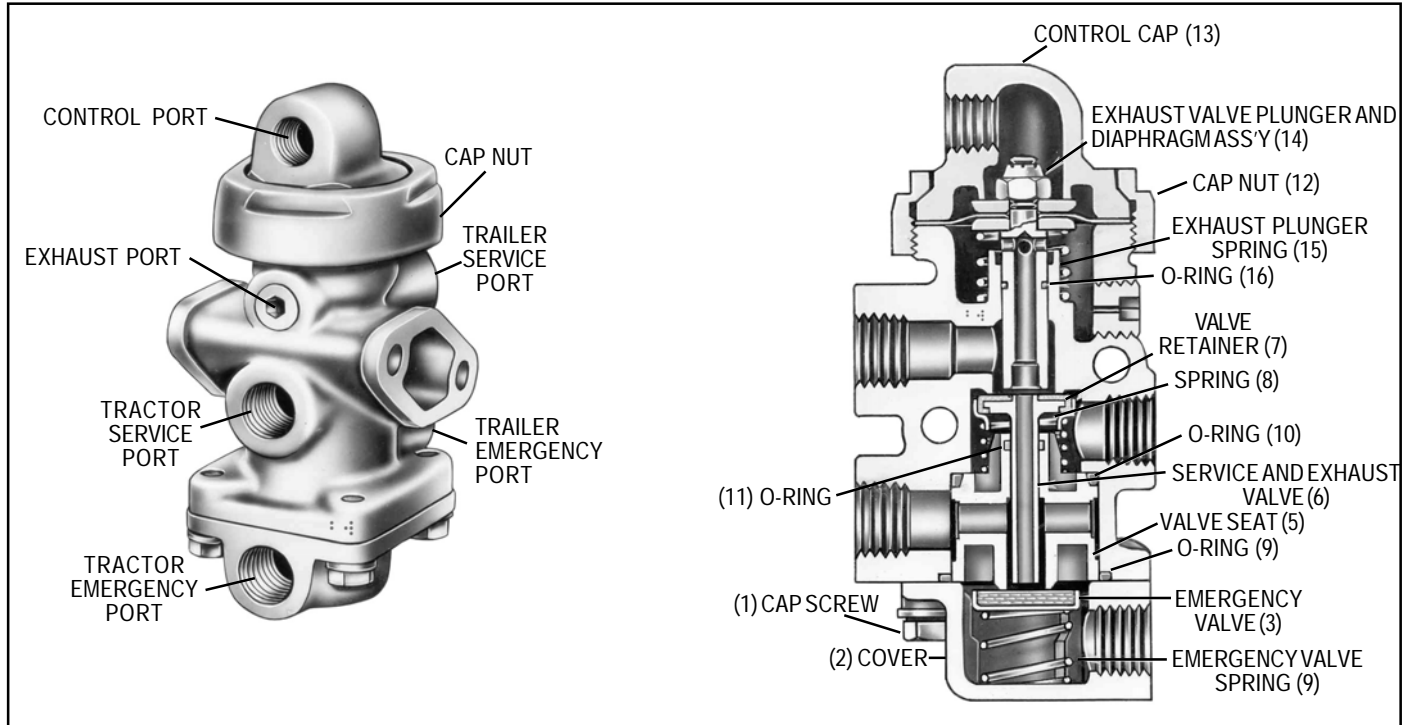

FIGURE 1 - TRACTOR PROTECTION SYSTEM
**Important:** Mark position of control port and tractor emergency port location in relation to body in such a manner that mark will not be obliterated during cleaning of parts. Three (3) springs in valve should be carefully marked as to their proper location in valve as valve is disassembled.
1. Remove four (4) cap screws (1) Figure 1, lock washers, and cover (2) from valve.
2. Remove emergency valve (3) and emergency valve spring (4) from cover.
3. Remove valve seat (5) service and exhaust valve (6), valve retainer (7), spring (8).
4. Remove o-rings (9), (10), and (11).
5. Remove cap nut (12) and control cap. (13).
6. Remove exhaust valve plunger and diaphragm assembly from body. (14).
7. Remove exhaust plunger spring (15) from body.